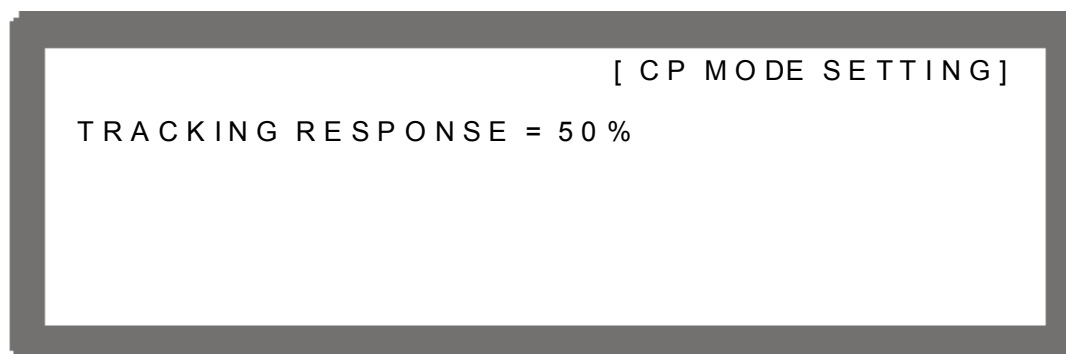

Figure 4-25
It is able to set the TRACKING speed in CP_TRACKING MODE. Select CP_TRACKING MODE and the screen shows as Figure 4-25.
1. Use the numeric (~) keys or "Rotary" () knob to set the value. The input range is 1~100 as Figure 4-25 shows. The smaller the number the slower the response speed but higher stability.